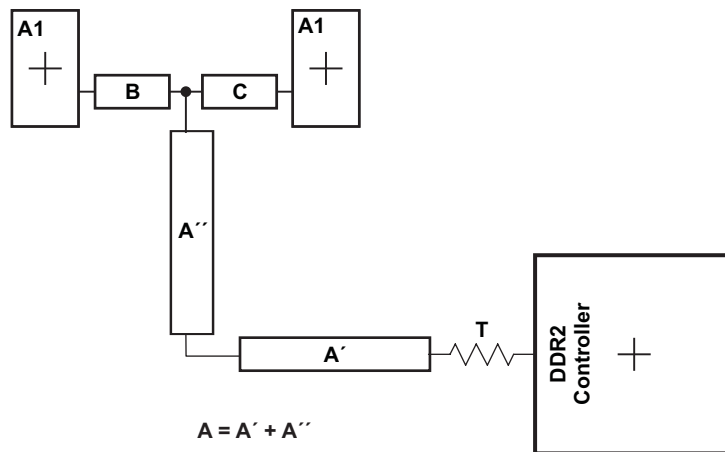

Figure 8-10. CK and ADDR\_CTRL Routing and Topology
Figure 8-10 shows the topology of the routing for the CK and ADDR\_CTRL net classes. The route is a balanced  $T$  as it is intended that the length of segments B and C be equal. In addition, the length of A ( $A'+A''$ ) should be maximized.
- (1) The length of segment  $A=A'+A''$  as shown in Figure 8-10.
- (2) Center-to-center spacing is allowed to fall to minimum ( $w$ ) for up to 500 mils of routed length to accommodate BGA escape and routing congestion.
- (3) CACLM is the longest Manhattan distance of the CK and ADDR\_CTRL net classes.